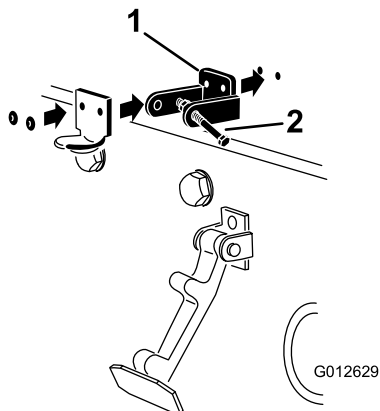

Figure 4
- While aligning the mounting holes, position the CE lock bracket and the hood-latch bracket onto the hood (Figure 4).
- Rivet the brackets and the washers to the hood (Figure 4).